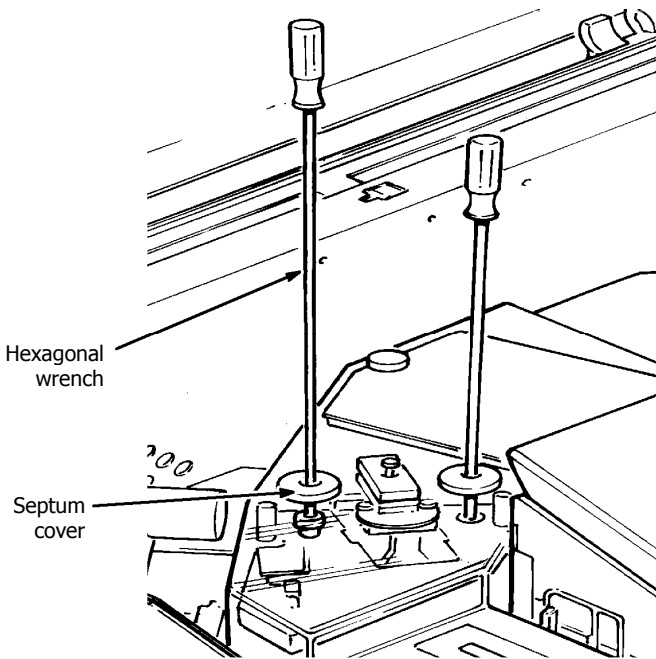

Figure 9 Use of the Hexagonal Wrench
2. Push the wrench down onto the top of the adjustment screw (a depth of about 4 cm) as shown in Figure 9. Gently rotate the wrench until it drops into the top of the adjustment screw.
5. Push the wrench down through the hole in the metal plate and onto the top of the adjustment screw below (a depth of about 11.5 cm) as shown in Figure 9. Rotate the wrench until it drops into the top of the adjustment screw.